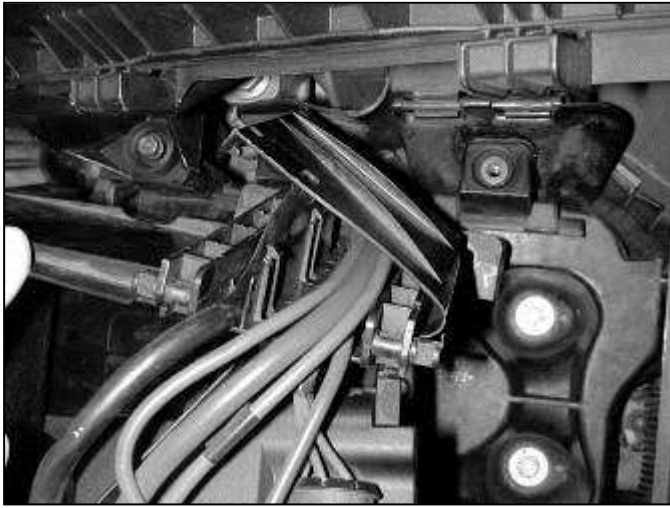

Fig. 5
- e. Unlatch the plastic wire tunnel cover on the backside of the battery box. **(Fig. 5)** Swing the cover open and remove the wire harness for the plastic battery box.